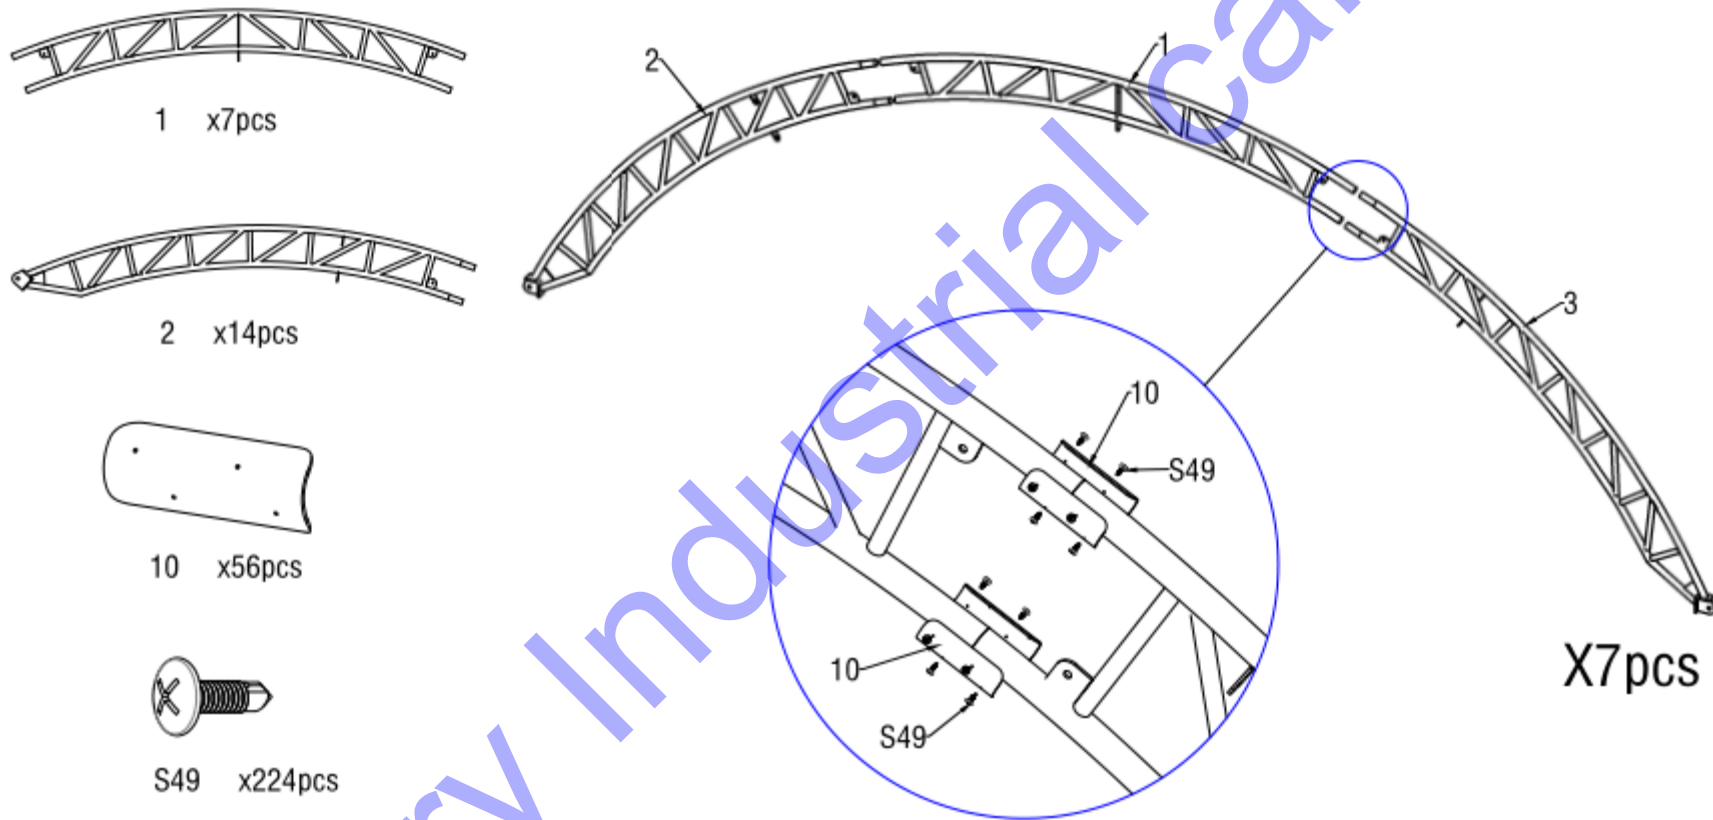

Figure 2
2.1 As Figure 2 shown to find one Middle Bent Tube, Lower Bent Tube and assemble these arches with screw M4x16mm(Part no.S49) and Clamping Piece(Part no.10) to make the first arch group.